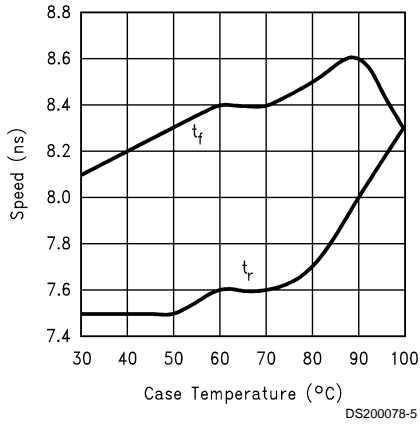

FIGURE 4. Speed vs Temp.
*Figure 4* shows the performance of the LM2467 in the test circuit shown in *Figure 2* as a function of case temperature. The figure shows that the rise time of the LM2467 increases by approximately 10% as the case temperature increases from 50°C to 100°C. This corresponds to a speed degradation of 2% for every 10°C rise in case temperature. There is a negligible change in fall time vs. temperature in the test circuit.